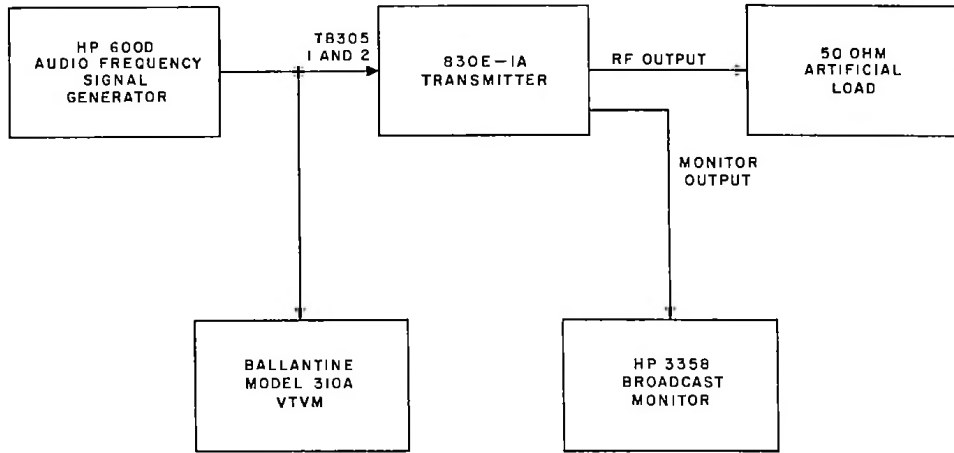

Figure 5-2. Audio Frequency Response, Test Setup
a. Refer to figure 5-2. Connect an audio frequency signal generator, such as a Hewlett-Packard Model 600D, to terminals 1 and 2 of terminal board TB305. (Disconnect the station console audio input leads when making these measurements.) Connect a vacuum-tube voltmeter, such as a Ballantine Model 310A, to the audio output terminals of the audio frequency generator. Connect a 50-ohm artificial load to the r-f output connector located on top of the transmitter cabinet. Turn on the transmitter.